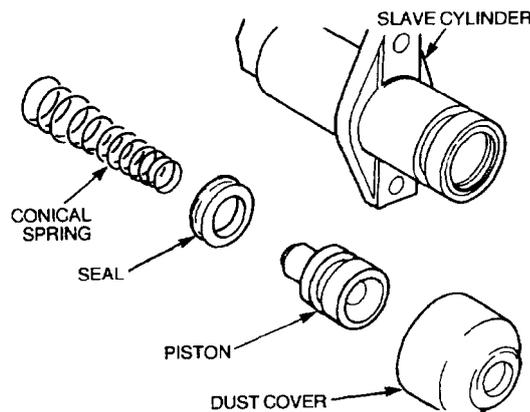

Figure 150 Slave Cylinder Exploded View
- b. Remove and discard the dust cover from the slave cylinder (Figure 150).
- c. Remove the piston assembly from the slave cylinder (Figure 150). If necessary, gradually apply low air pressure to the inlet port to expel the piston. Remove the seal from the piston and discard the seal.
- b. Assemble the conical spring, a new seal and the piston in the sequence shown in Figure 150.